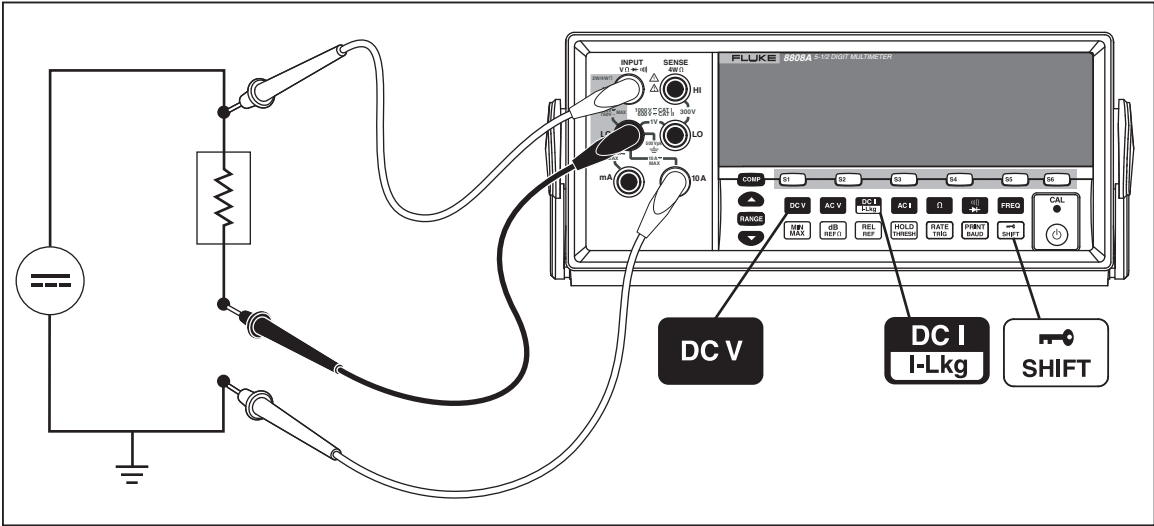

Figure A-2. DC Voltage and DC Current Measurement on Input Signal
Most applications of the dual display listed in Table A-2 can be performed using a single set of test leads connected to the **INPUT** $V\Omega \rightarrow \rightarrow \rightarrow$ **HI** and **LO** terminals. However, to measure the voltage and current of an input signal requires three leads. Be sure that the voltage and current measurements share the same common as shown in Figure A-2. Then simply follow the precautions you would follow if you were making normal current measurements without a current clamp.
4. Connect the leads to the test circuit as shown in Figure A-2 and read the measurements on the display. Although current will be displayed as negative, it is in fact positive when interpreted according to current flow convention.